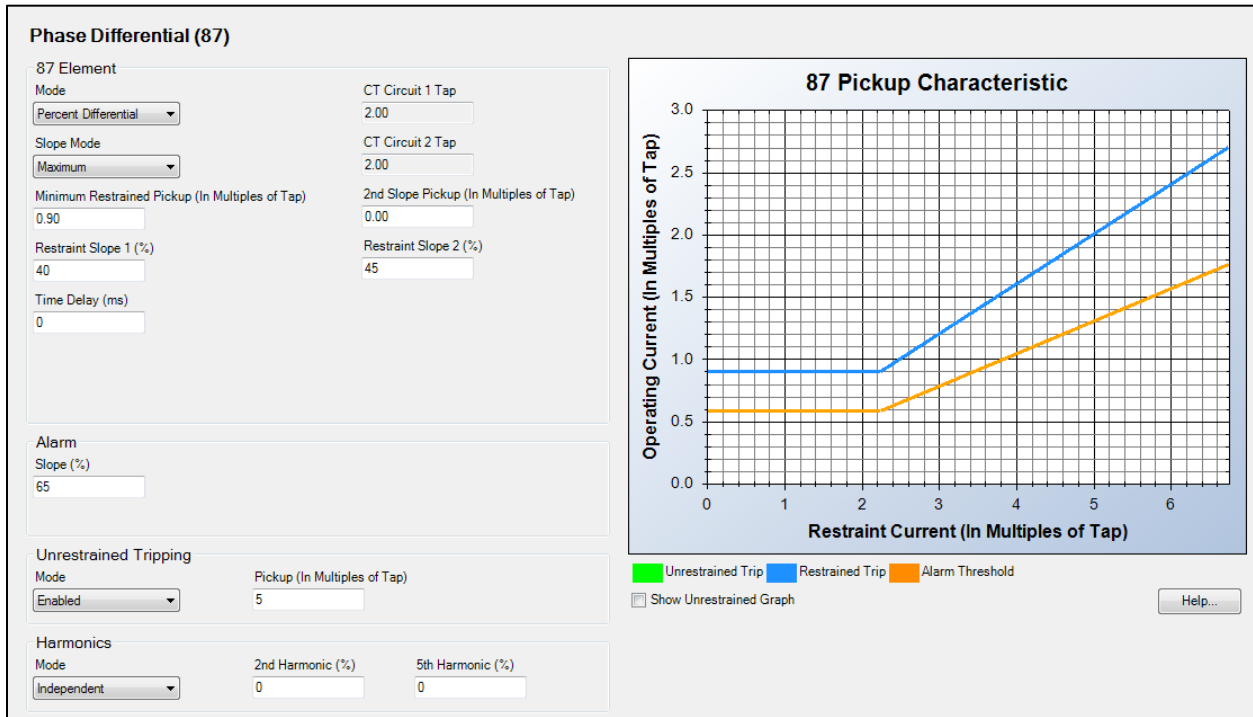
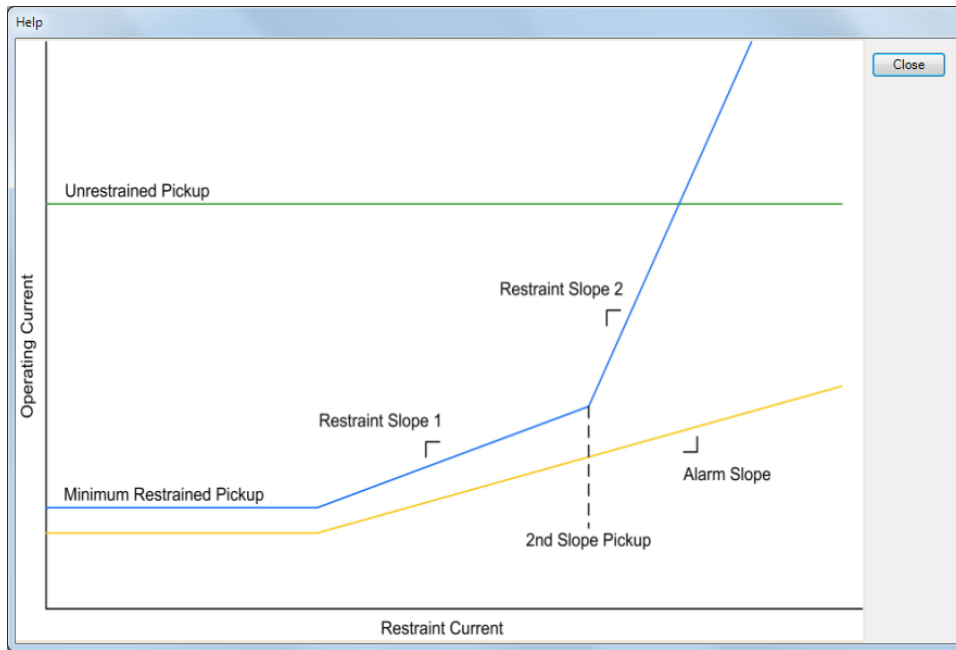

Figure 18-4. Phase Current Differential Settings Screen
Figure 18-5. Phase Current Differential Operation Chart
Phase current differential element operational settings are configured on the Phase Current Differential (87) settings screen (Figure 18-4) in BESTCOMSPPlus. A legend for the chart (Figure 18-5) is shown by clicking the Help button on this screen.